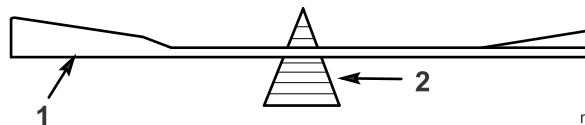

Figure 37
2. Check the balance of each blade by putting it on a blade balancer (Figure 37). If the blade stays in a horizontal position, the blade is balanced and can be used. If the blade is not balanced, file some metal off the back side of the blade. Repeat this step until each blade is balanced.